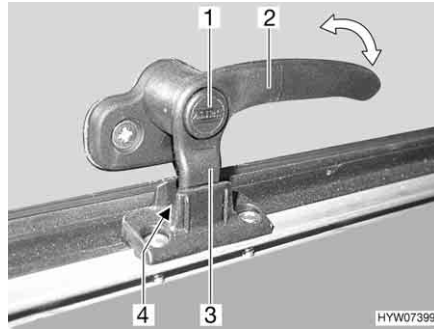
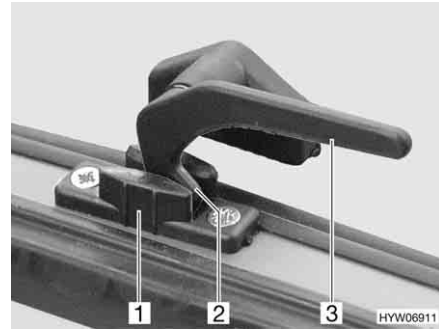

Fig. 81 Catch lever with safety knob in "continuous ventilation" position
Fig. 82 Catch lever in "continuous ventilation" position
- "Continuous ventilation" (Fig. 81 and Fig. 82)
- Press and hold the security button (Fig. 81,1), if present.
- Turn the catch lever (Fig. 81,2 or Fig. 82,3) a quarter turn towards the centre of the window.
- Return the catch lever to its initial position. Move the locking catch (Fig. 81,3 or Fig. 82,2) on the catch lever into the recess of the window catch (Fig. 81,4 or Fig. 82,1).